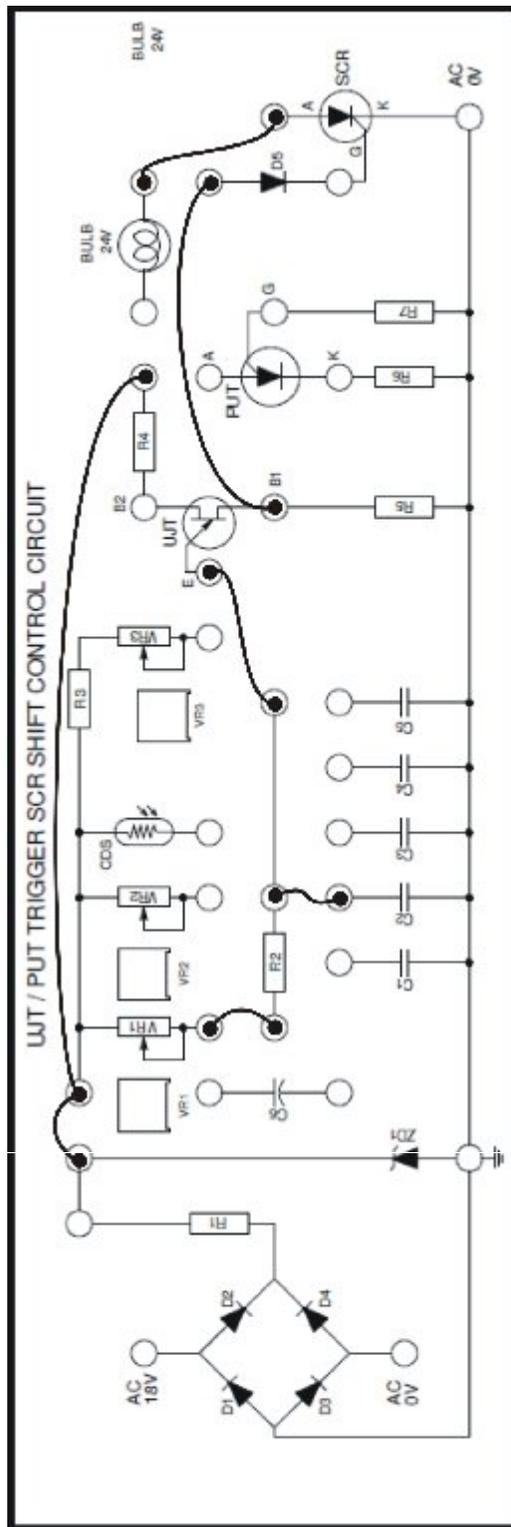

Fig 8.4
7. Make connection as in fig 8-4. Repeat steps 4 and 5.